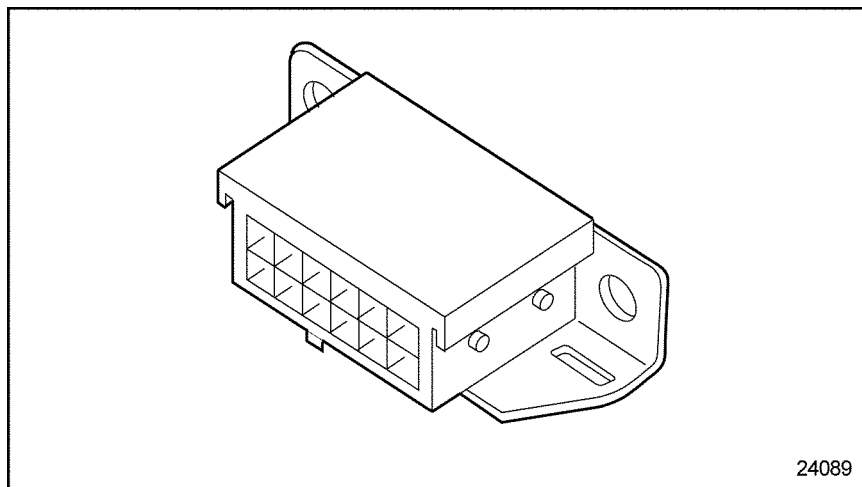

Figure 10-1 Typical Display Data Line Adaptor
1. Install the Diagnostic Data Reader to the vehicles Display Data Line Adaptor, see Figure 10-1; refer to OEM guidelines.